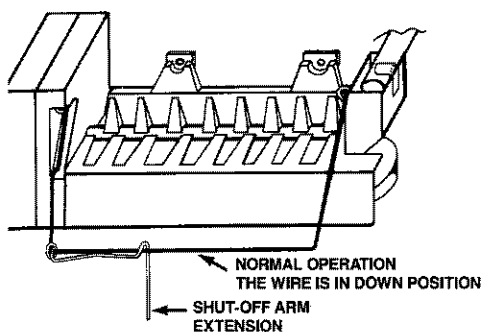

FIGURE 37
1. **Normal Operation:** the wire arm is in the down position; ice will be made. See Figure 37.